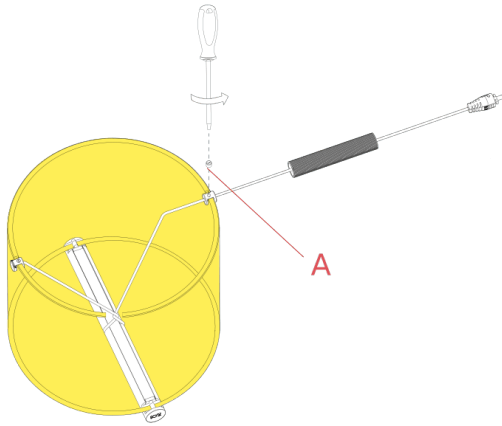

Fig.1
Unfasten the screws (F) through the Allen key tool (E).(Fig.1)